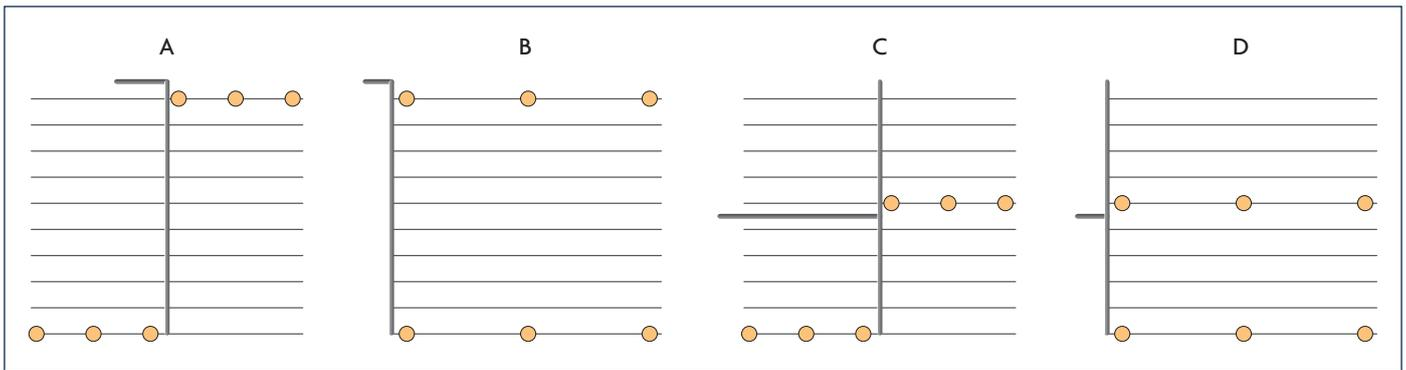

Figure 3.2. Location of positions for pressure testing
The pressure at the start of the first lateral (see Figure 3.2 on the following page) is not a suitable substitute measurement for off-take pressure.
7. Measure the Pressure at the beginning, middle and end of the first and last laterals in each assessed station (see Figure 3.2 a–d)
Measure the Emitter Discharges at three different locations, representing the 'cleanest', 'average' and 'dirtiest' areas within the system (Figure 3.2 A–C). These locations each have a different probability of emitter clogging.
Usually the cleanest location (that least likely to have clogging) is the one hydraulically nearest to the headworks and filters (Figure 3.2 a). If a different area is known to be cleanest, select that area instead.
Usually the dirtiest location (most likely to have clogging) is the one hydraulically furthest from the headworks and filters (Figure 3.2 c). Often this is also a lower area. If a different area is known to be dirtiest, select that area instead. Dirt accumulation is often related to lowest pipe flow velocity where sediments settle out compared to being flushed along under higher turbulent flow rates. Low flow rates occur at the closed end of laterals and submains.
1. Measure the discharge of 12 emitters in each station (see Figure 3.2).